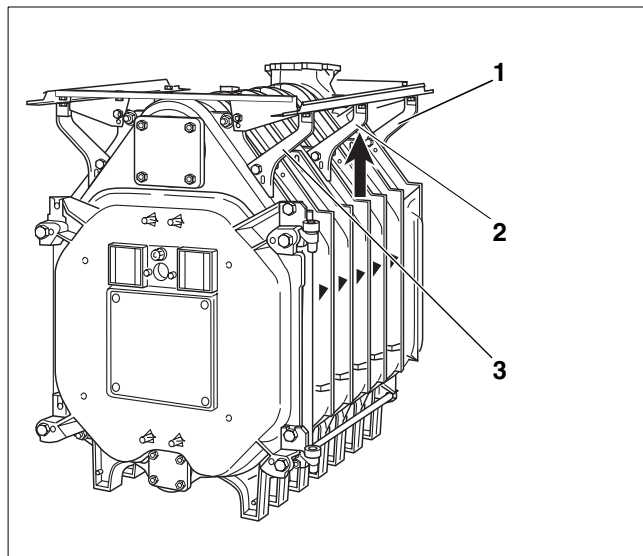

Fig. 39 Lining up longitudinal rails
- Line up the longitudinal rails and bolt the brackets tightly to the front and rear sections (Fig. 39, **ref. 1 and 3**).
- Slide the centre brackets (Fig. 39, **ref. 2**) up against the longitudinal rails from below and then bolt them tightly to the boiler block.